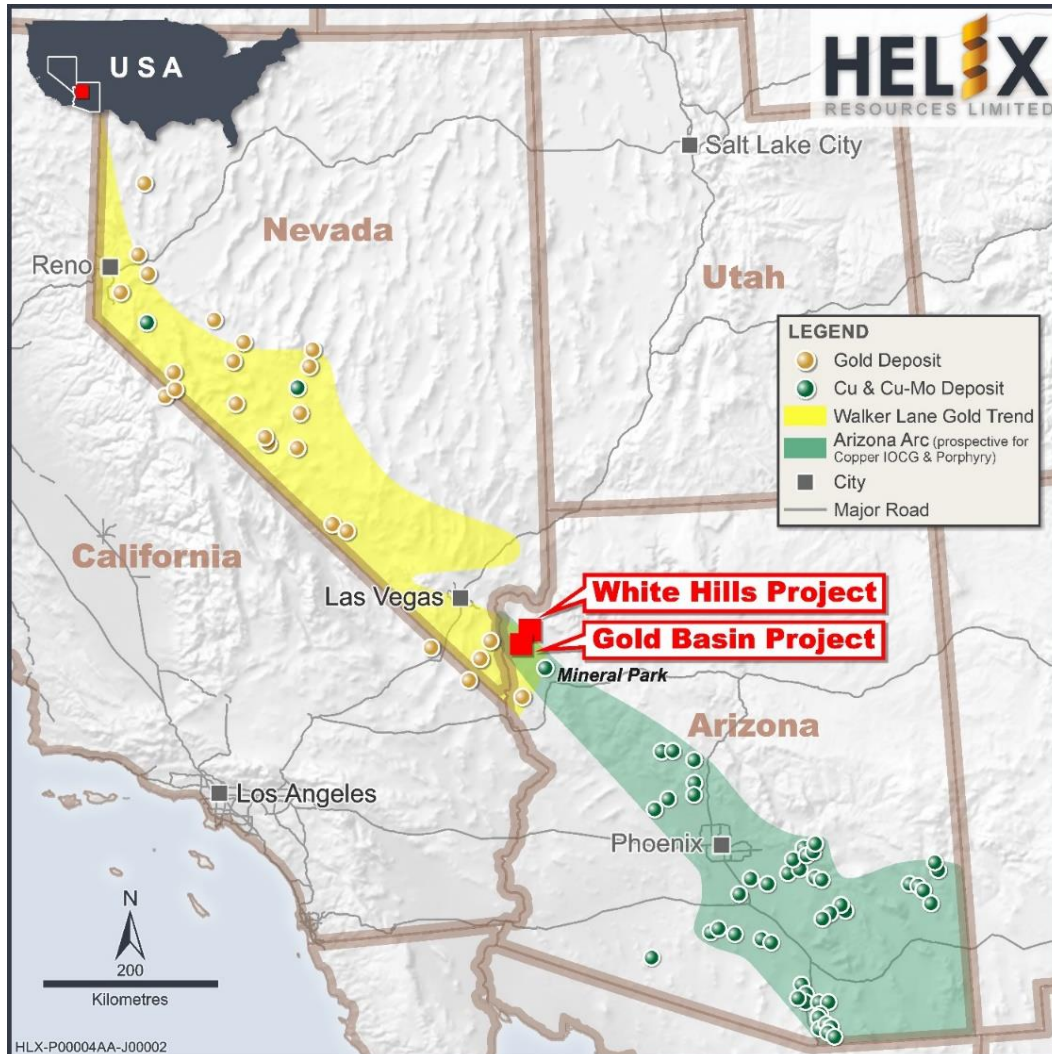
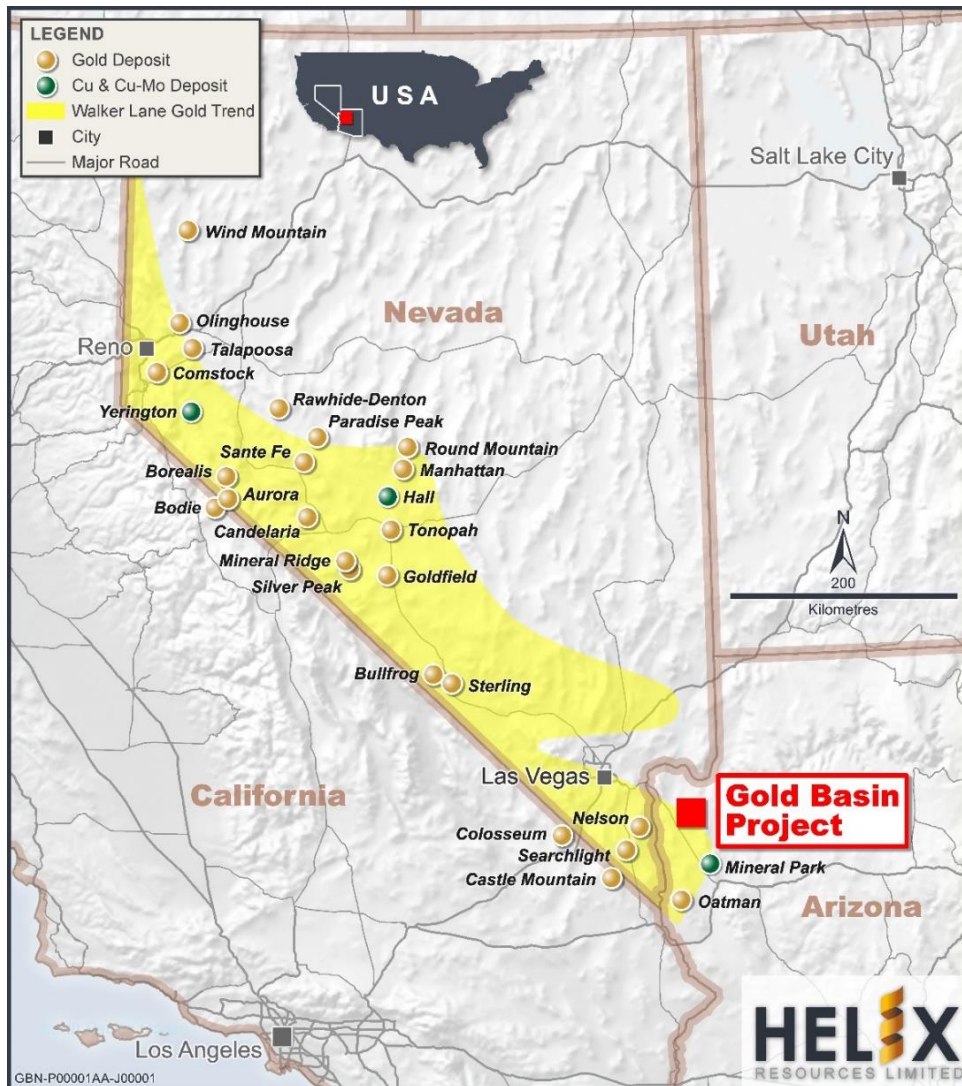

Figure 1: Location of the Gold Basin oxide-gold project and Helix's recently acquired White Hills copper-gold Project in Arizona.²
Figure 2: Gold projects in the Walker Lane Gold Trend and location of the Gold Basin oxide-gold project.
Helix Resources Limited (ASX: HLX) (**Helix** or the **Company**) is pleased to report on bottle roll and column leach Metallurgical Testwork conducted by Kappes Cassiday & Associates (KCA) in Reno, Nevada between December 2021 and May 2022. The testwork was carried out on drill samples from the Gold Basin JV project in Northern Arizona, USA. Helix holds an 'Earn-in' and Joint Venture (JV) for up to 40% interest in the Gold Basin Resources gold tenements in Arizona, USA (**Figure 1**) (the **Gold Basin oxide gold project**). The Gold Basin oxide-gold project is located within the prolific Walker Lane Gold Trend (**Figure 2**), which hosts world-class oxide gold deposits operated by major gold companies.